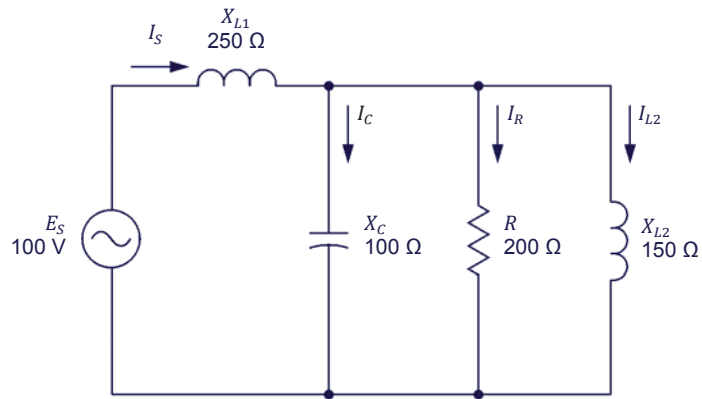

Figure 4-10. AC power circuit containing a resistor, two inductors, and a capacitor.
2. Calculate the source voltage E_S in the ac circuit of Figure 4-10, assuming that the resistor voltage E_R is still 60 V.
3. Calculate the actual total reactive power Q in the ac circuit of Figure 4-10 using the parameter values you calculated in the previous questions.
4. Calculate the actual source voltage E_S in the ac circuit of Figure 4-10 using the parameter values you calculated in the previous questions.
5. Calculate the power factor PF of the ac circuit in Figure 4-10 using the parameter values you calculated in the previous questions.